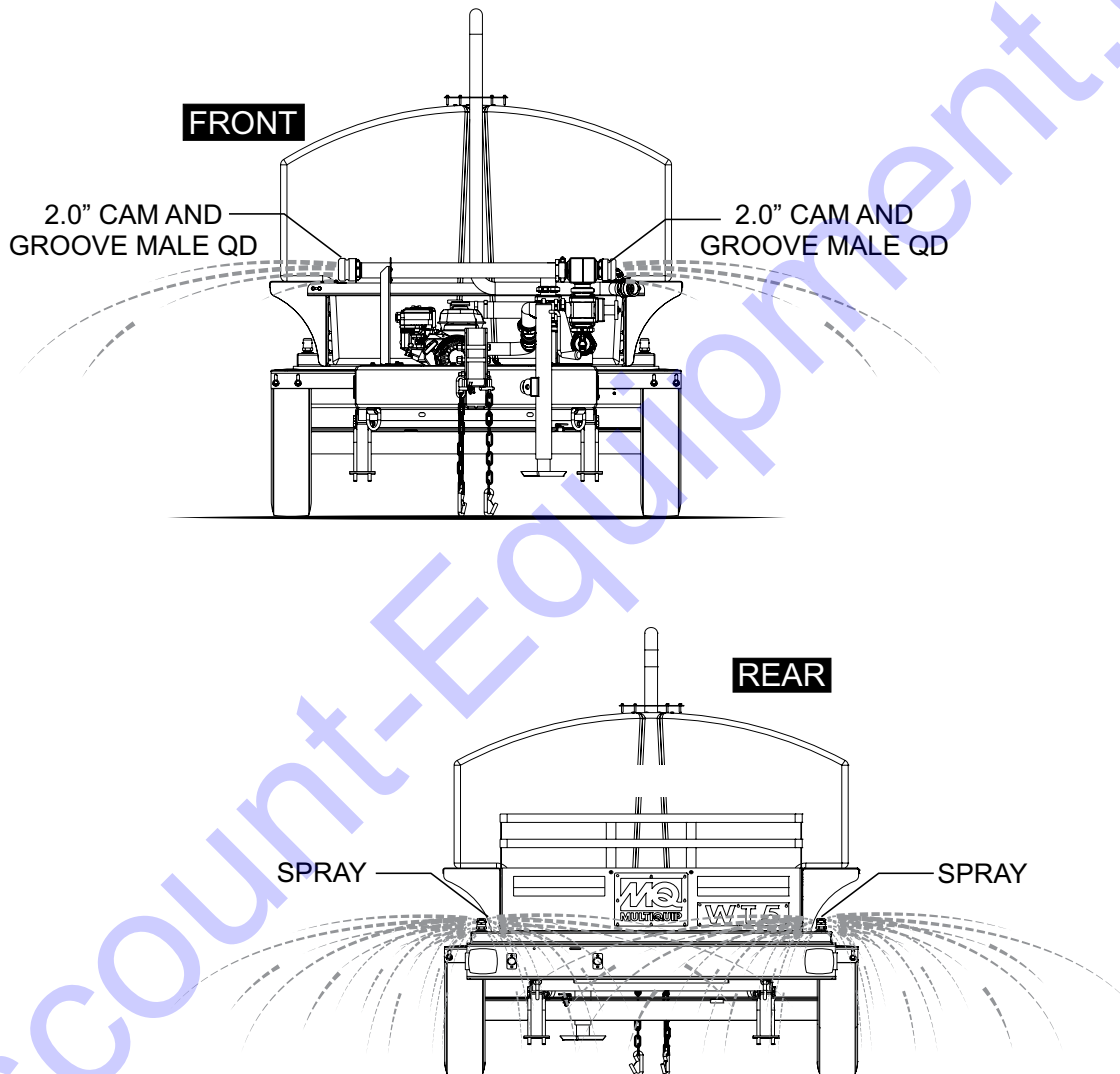

Figure 20. Discharging Water
4. Figure 20 represent a typical water discharge application without discharge hoses.